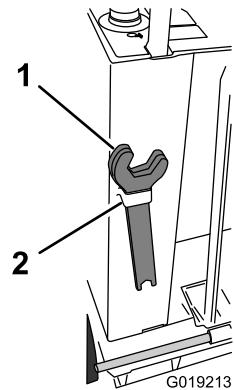

Figure 14
5. Remove the 2 wrenches from the storage bracket at the back-left side of the operator panel (Figure 14).